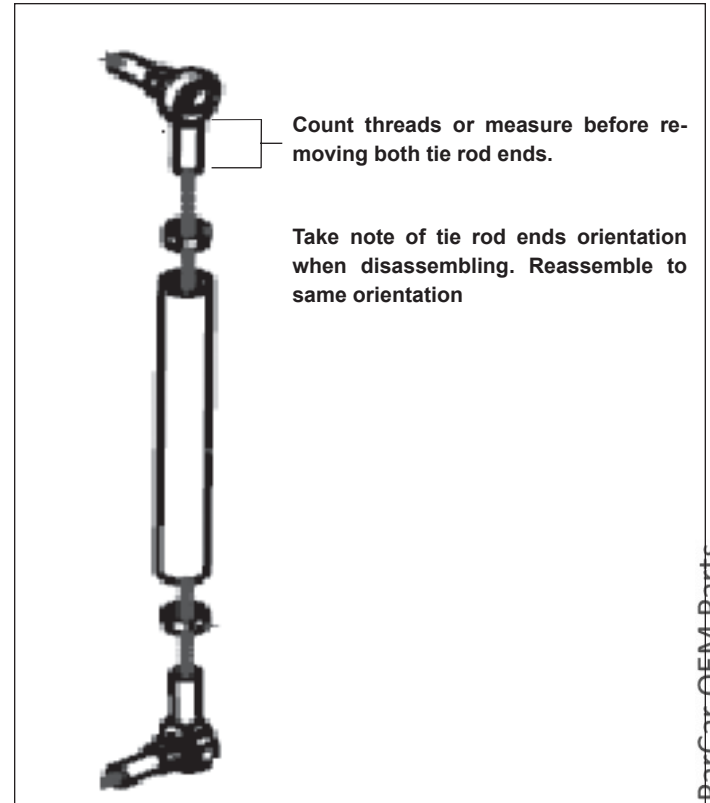

Figure 6-10. Replacing Tie Rod Ends
1. If tie rods or tie rod ends are to be replaced, take note of the tie rod end studs orientation. Use a felt tip marker to mark these directions on the ends of the steering shaft and tie rods as an aid for reassembly. Measure the length of the tie rod threads or count the number of threads as you remove tie rod ends (Figure 6-10).